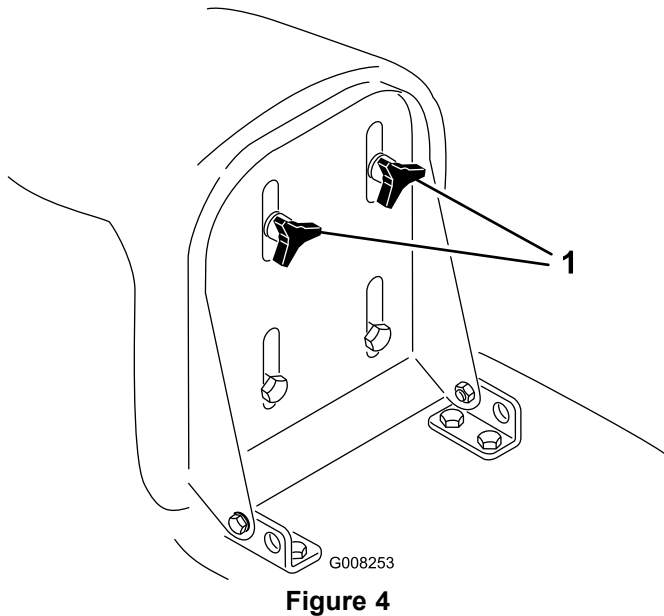

Figure 4
1. Raise the seat and loosen the adjustment knobs (Figure 4).